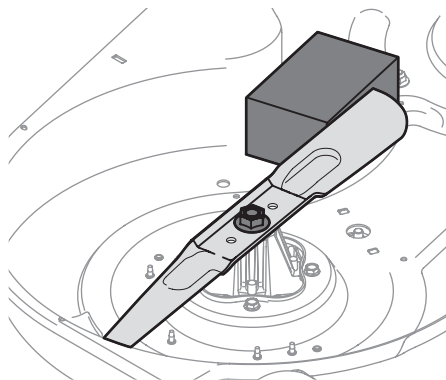

Figure 4-15
2. Place a block of wood between the deck housing baffle and the cutting blade to act as a stabilizer. See Figure 4-15.
3. Remove the hex flange nut that secures the blade to the spindle assembly. See Figure 4-15.